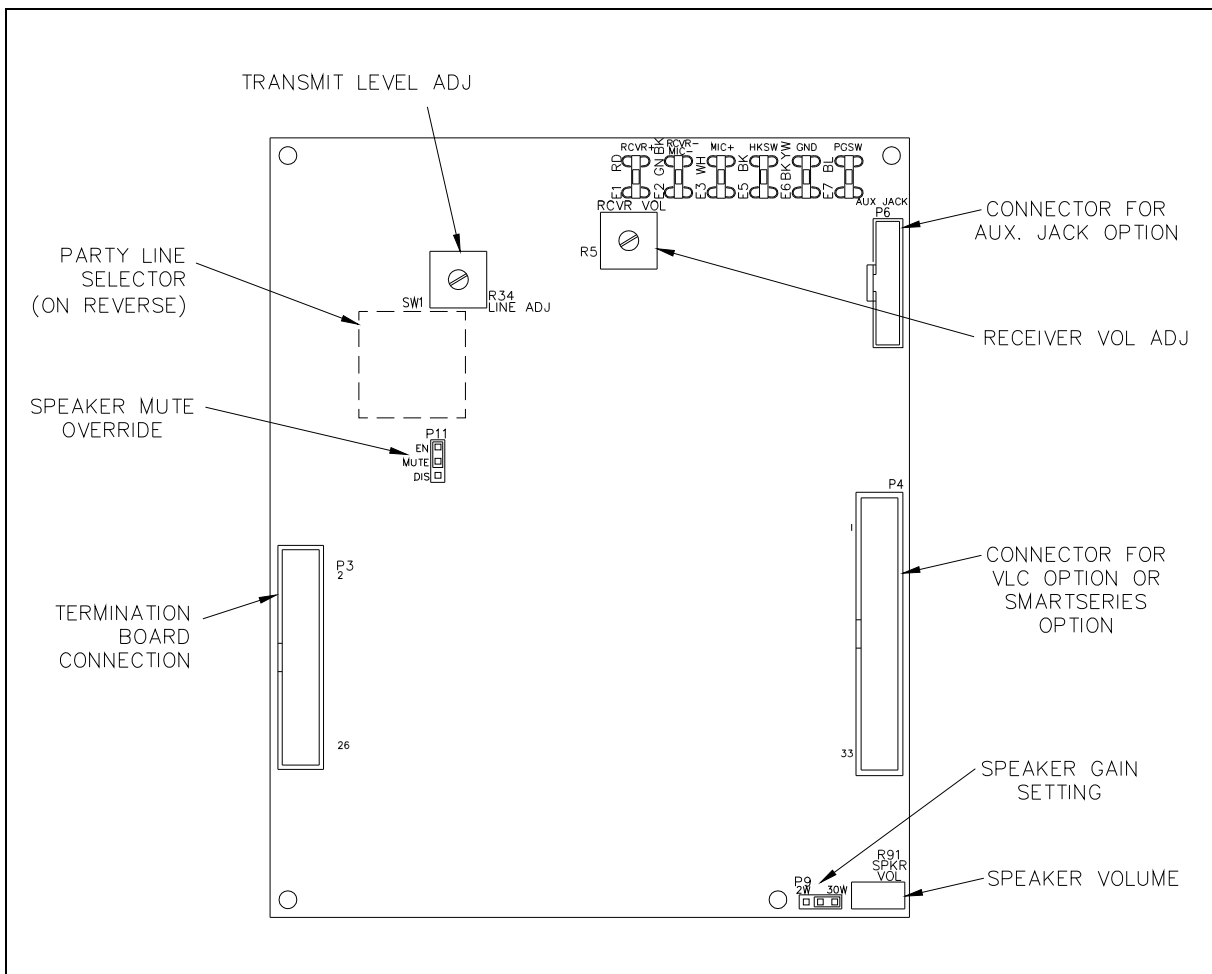

Figure 6. No. 69557 Series Main PCBA
The station can mute the speaker amplifier during page operation to eliminate feedback. Adjust the speaker mute jumper, P11, if necessary, to mute the local speaker when paging from that station (see Figure 6).
The speaker gain jumper, P9, sets the maximum speaker output level (see Figure 6).
Use the transmit-level potentiometer, R34, to adjust the signal level from the handset or optional auxiliary headset microphone to the page or party lines (see Figure 6).
Use the receiver volume potentiometer, R5, to adjust the signal level to the handset receiver from the page or party lines (see Figure 6). This does not adjust the signal level to the optional auxiliary headset.
Use the speaker volume potentiometer, R91, to adjust the signal level to the speaker from the page line (see Figure 6). The default setting is 4 watts for an 8-ohm speaker and 2 watts for a 16-ohm speaker.
1. Turn the speaker volume potentiometer, R91, (on the main PCBA) fully counterclockwise (see Figure 6).
3. Adjust the speaker volume potentiometer, R91, to the desired output (see Figure 6).
2. Remove all jumpers on the main PCBA P4 connector (see Figure 6).
1. Turn the speaker volume potentiometer, R91, (on the main PCBA) fully clockwise (see Figure 6).